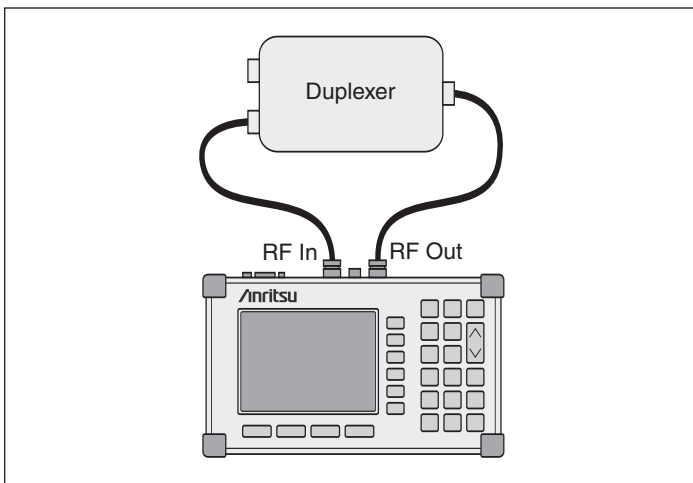

Figure 7. Transmission measurement connections for a passive device.
1. Connect the filter between the Spectrum Master RF In and RF Out ports (see Figure 7).
- Connect the filter as shown in Figure 7.